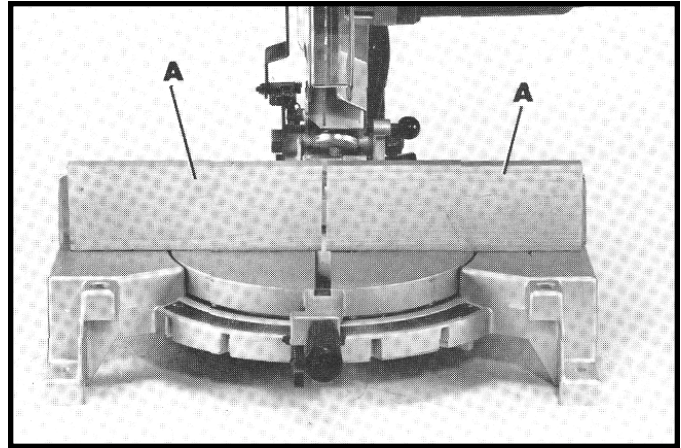

Fig. 34
Holes are provided in the fence to attach an auxiliary fence (A) Fig. 34. This auxiliary fence is constructed of straight wood approximately 1/2 inch thick by 3 inches high by 20 inches long. NOTE: The auxiliary fence (A) is used ONLY with the saw blade in the 0 degree bevel position (90 degrees to the table). When bevel cutting (blade tilted) the auxiliary fence will have to be removed.